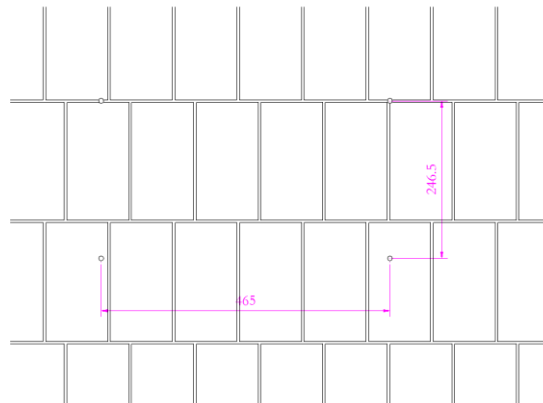

Figure 18: Hole punching diagram for Wall-mounted installation
- On the selected wall, use a percussion drill and choose a suitable drill bit [$\phi 8\text{mm}$ is recommended] to make a hole according to the size [465*246.5mm] in Figure 18, and the depth is about 50mm;